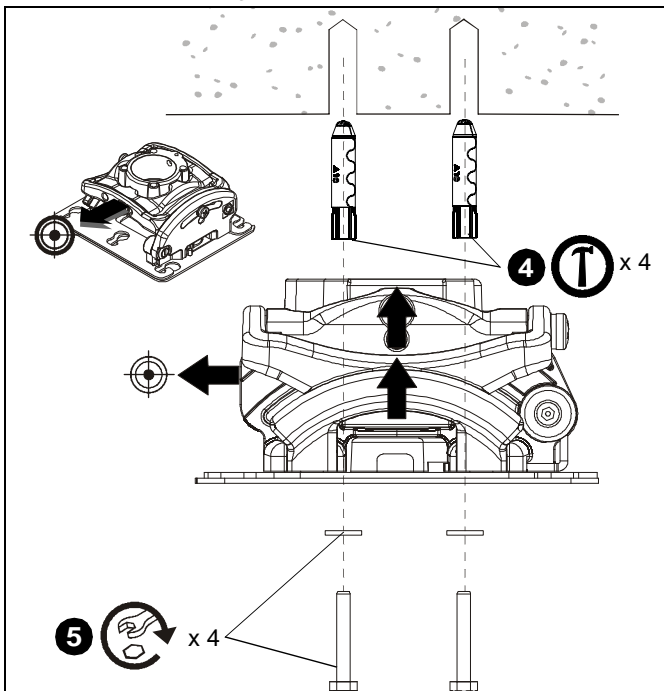

Figure 6
- Secure RPMX to structure using four 1/4" Grade 2 flat washers and four #10-24" x 3" Grade 2 wood screws (not included). (See Figure 6)